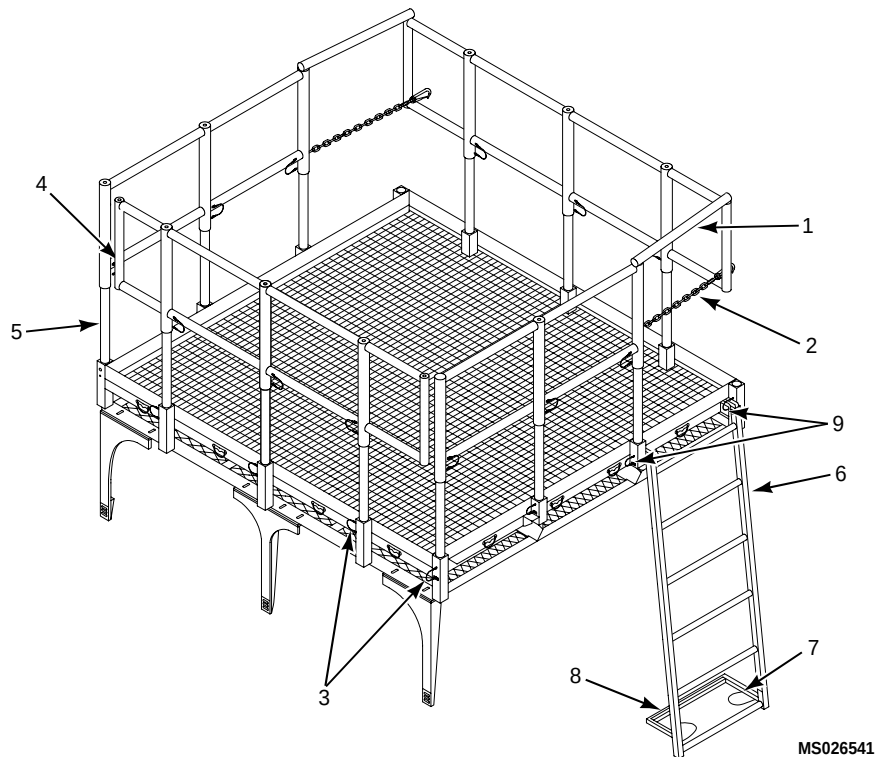

Figure 1. Removing Handrail Assemblies and Ladder
3. Remove safety bars (1) and unlatch safety chains (2). (Figure 1)
4. Remove locking pin (3) from each handrail nest, extract handrails and replace locking pins in nests.
5. Remove locking pins (4) and collapse handrail assembly extensions (5).
6. Descend ladder (6) to ground.
7. Remove locking pins (7) from ladder stabilizer (8) and fold into storage position. Replace locking pins (7).
8. Remove locking pins (9) from ladder (6).
9. Lift ladder (6) from slots.
10. Replace locking pins (9) in Overhead Cargo/Maintenance Rack Assembly.